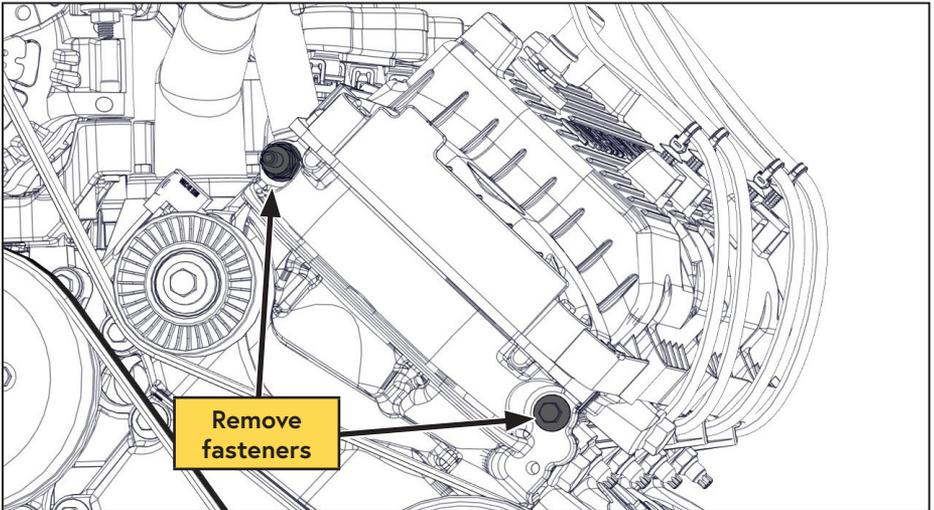

Figure 16 — Installing the main bracket
- Remove the bolt directly beneath the driver side valve cover, as well as the stud that the RIS was originally secured to (Figure 16).